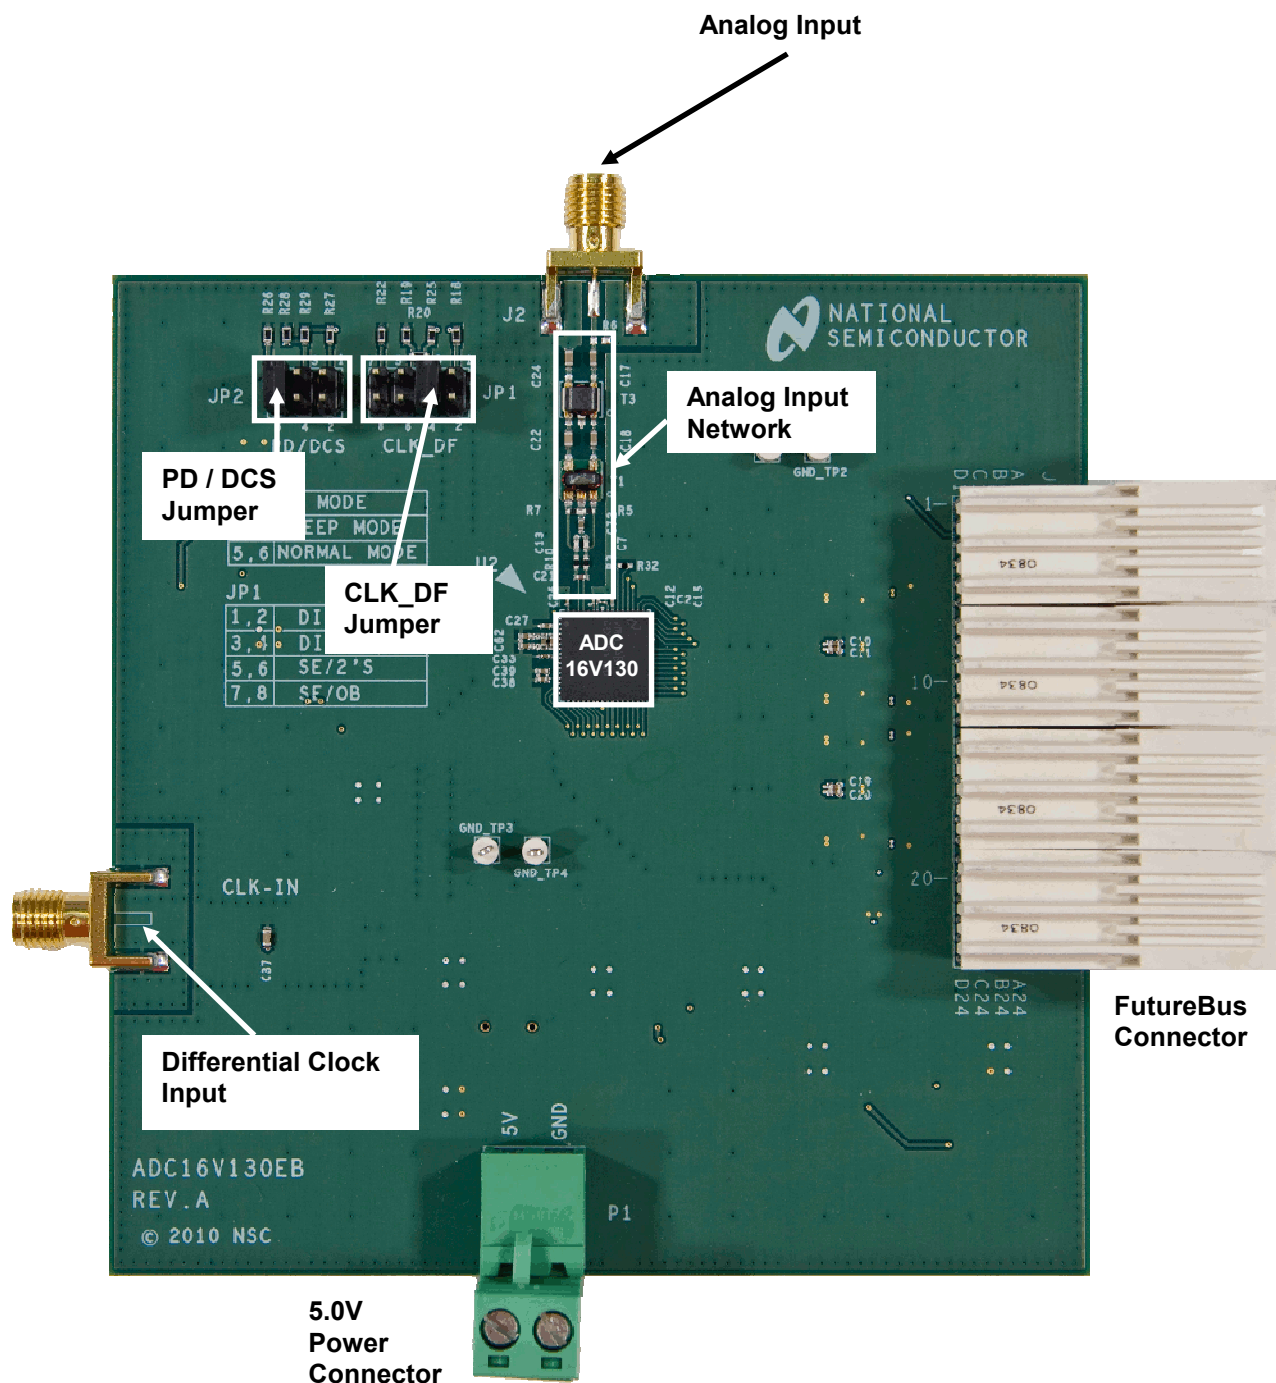
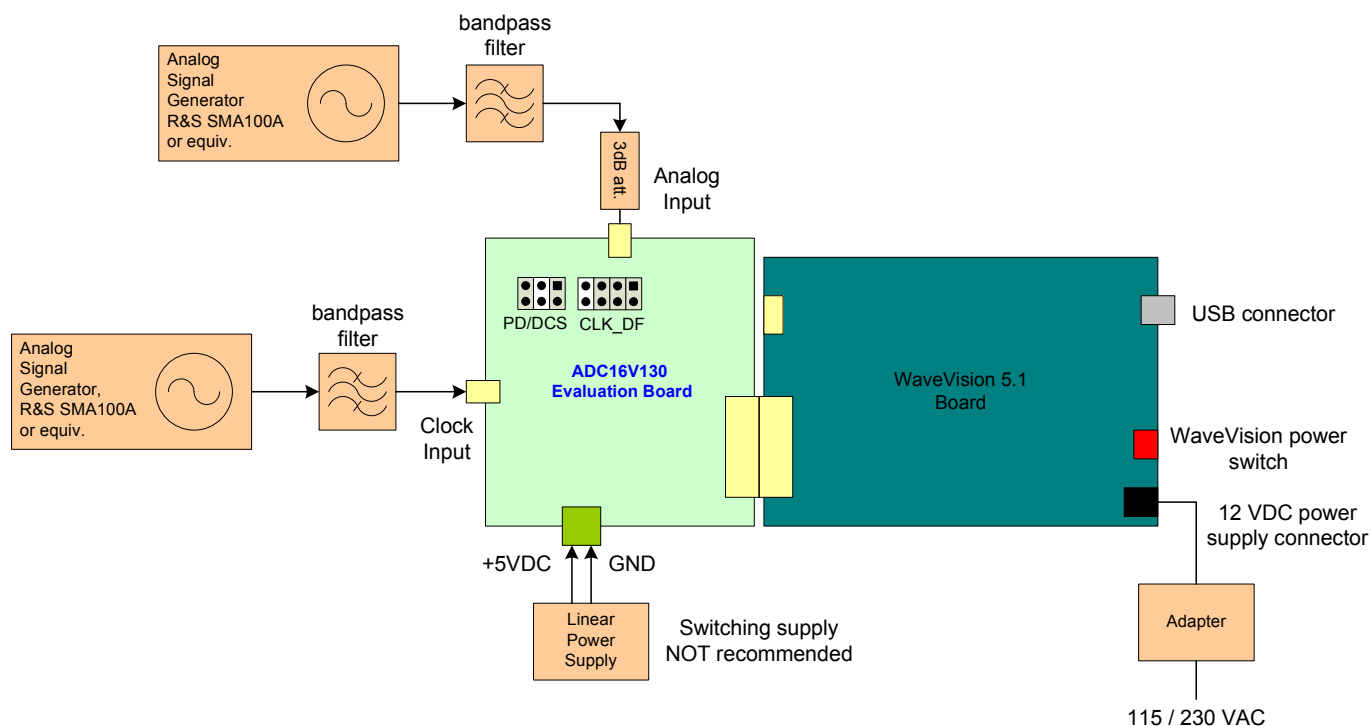

Figure 1a. ADC16V130 (Front) Component, Connector and Jumper Locations
Figure 2. Connection Diagram for ADC16V130EB and WaveVision 5.1 Data Capture Hardware
in the WaveVision 5.1 kit. The connection diagram is shown in Figure 2.
The ADC16V130 board jumpers should be configured as follows. Please refer to Figures 1a and 1b for the exact jumper locations.
2. Connect the ADC16V130 reference board to the WaveVision 5.1 board through the FutureBus connector as shown in Figure 2. The ADC16V130 evaluation board should not be powered up, as the WaveVision hardware does not support hot-swapping of boards.
3. Connect a 5.0V power supply capable of supplying up to 500mA to the green power connector which is located along the bottom edge of the ADC16V130 board. This is shown in Figure 2. Ensure that the polarity of the wires going to the green power connector match the "+5V" and "GND" labels in Figure 2 above. Turn on the 5V supply.
4. Connect the signal source through the "INPUT" SMA connector and the clock source through the "CLK_DIFF" SMA connector as shown in Figure 1a and Figure 2. Recommended signal generators are the HP8644B (HP/Agilent) or the SMA100A (Rohde & Schwarz). A bandpass filter between the signal generator outputs and the ADC16V130EB SMA connectors is required to measure the true performance of the ADC16V130. A 3 dB attenuator is also recommended between the Analog Input SMA connector and bandpass filter. See Figure 2.